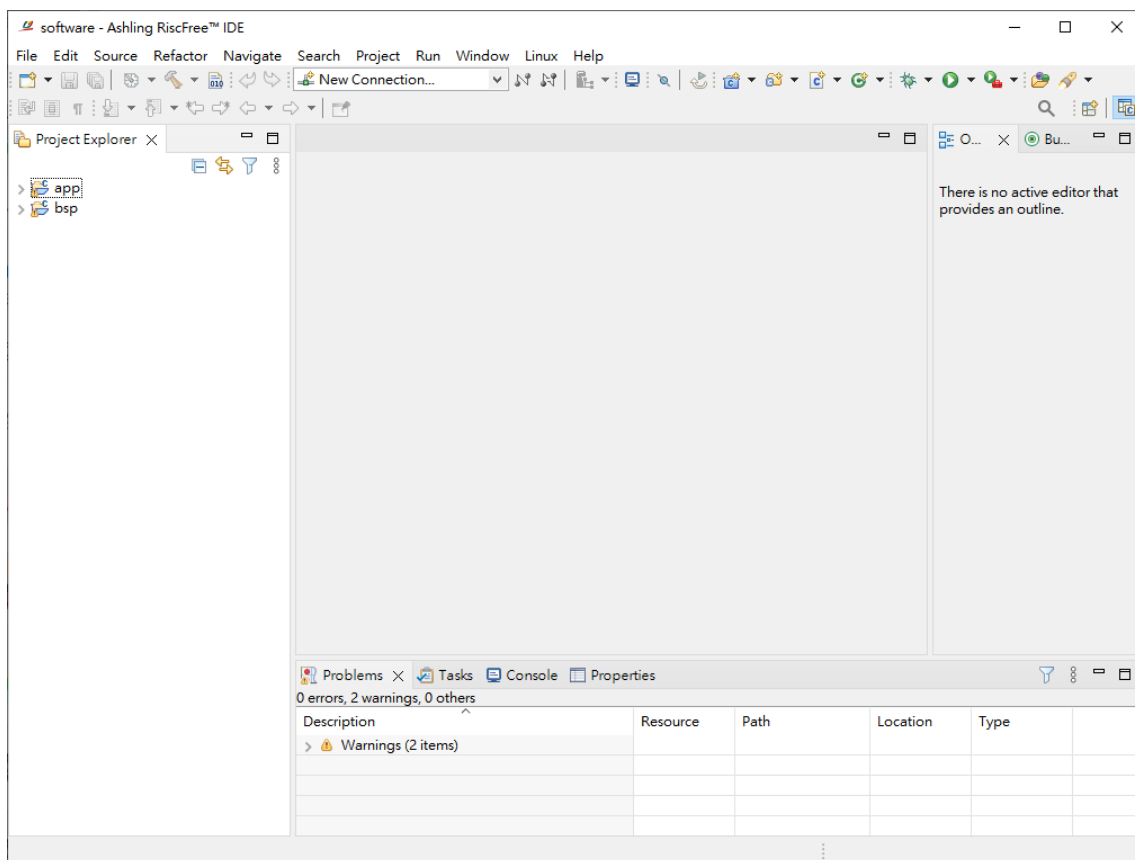

Figure 3-16 Ashling RiscFree IDE C++ Project Perspective for bsp and app
9. Click **Finish**. The Ashling RiscFree IDE import the **app** project and returns to the Nios V C/C++ project perspective. See Figure 3-16.